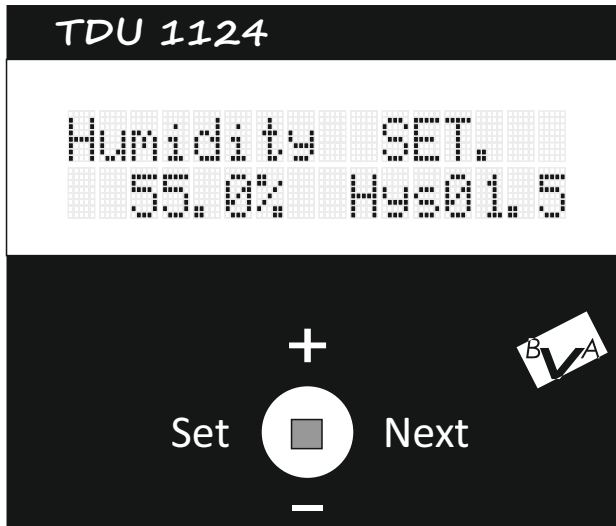
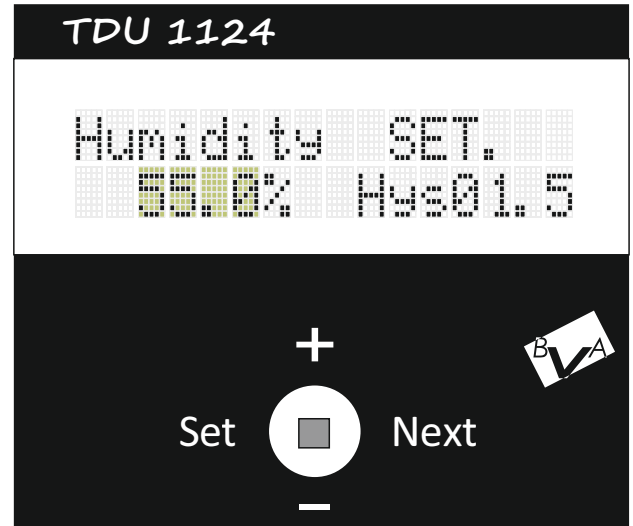
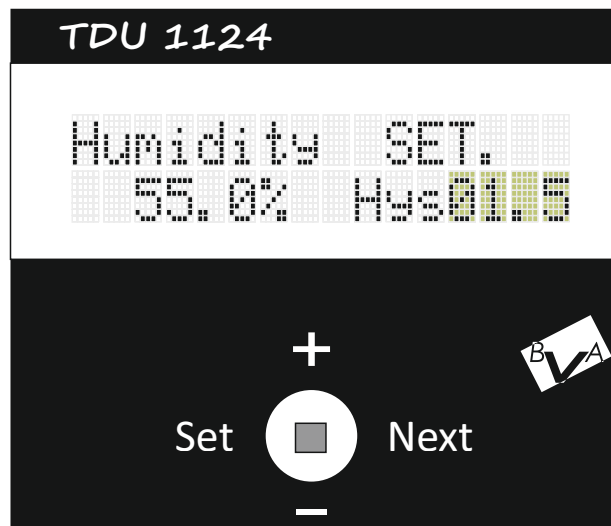

fig.8
fig.9
fig.10
2. Humidity adjustment. From the humidity adjustment screen see fig.8, press the (SET) key, the humidity value will be displayed intermittently see fig.9, with the (+ and -) keys we choose the desired value, with the (NEXT) key we go further to the hysteresis adjustment see fig 10 where with the (+ and -) keys we choose the desired value, and with the (SET) key we save the entered data.